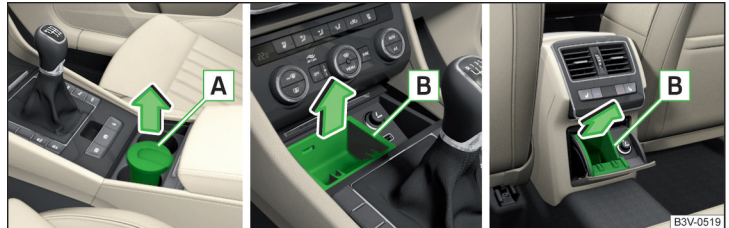

Fig. 133 Remove front ashtray / remove front ashtray insert / remove rear ashtray insert
- Hold the ashtray **A** (not by the lid) **remove** it in the direction of the arrow » Fig. 133.
- To **remove** the insert, open the ashtray fully, hold the insert in area **B** and **remove** in the direction of the arrow » Fig. 133.